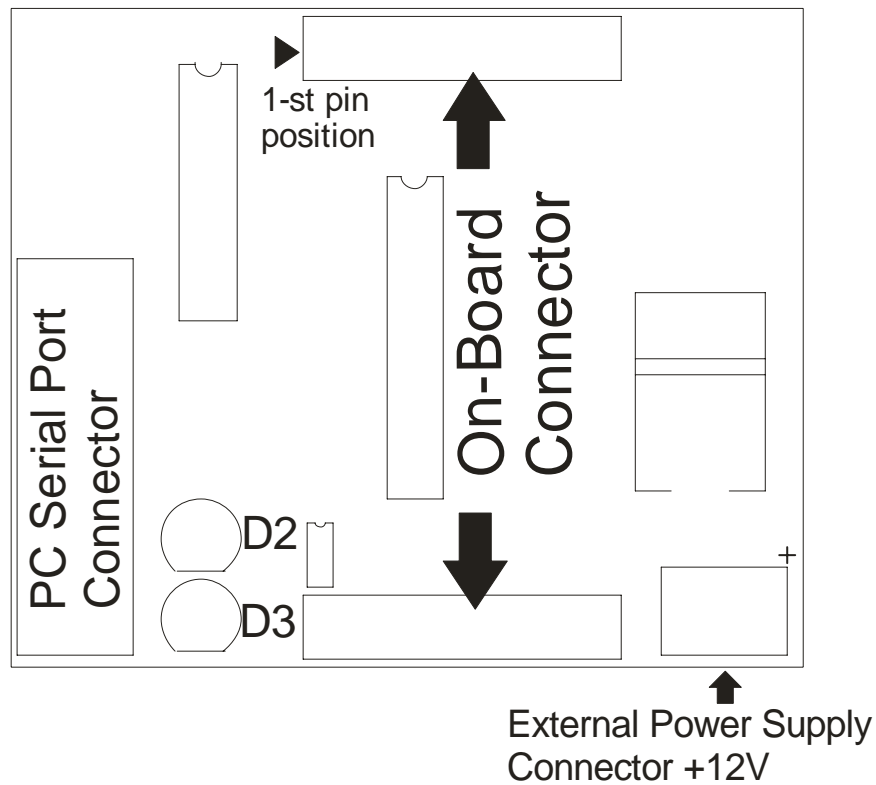

Figure 1. The *ST7282-Programmer* board layout
The *ST7282-Programmer* includes two LED's (Figure 1).
- Insert adapter with soldered MCU into On-Board connector (see Figure 1).
- **Problem:** LED D3 (see Figure 1) Dark.